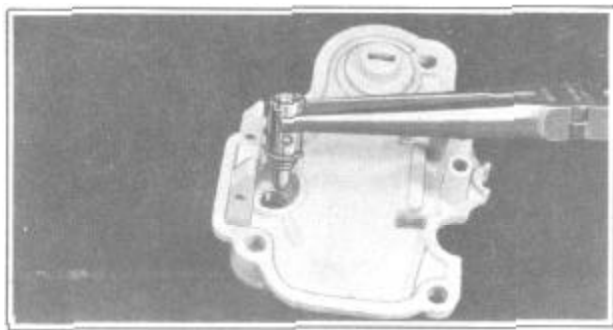

FIGURE 64
2. Install needle seat and gasket assembly, Figure 64.